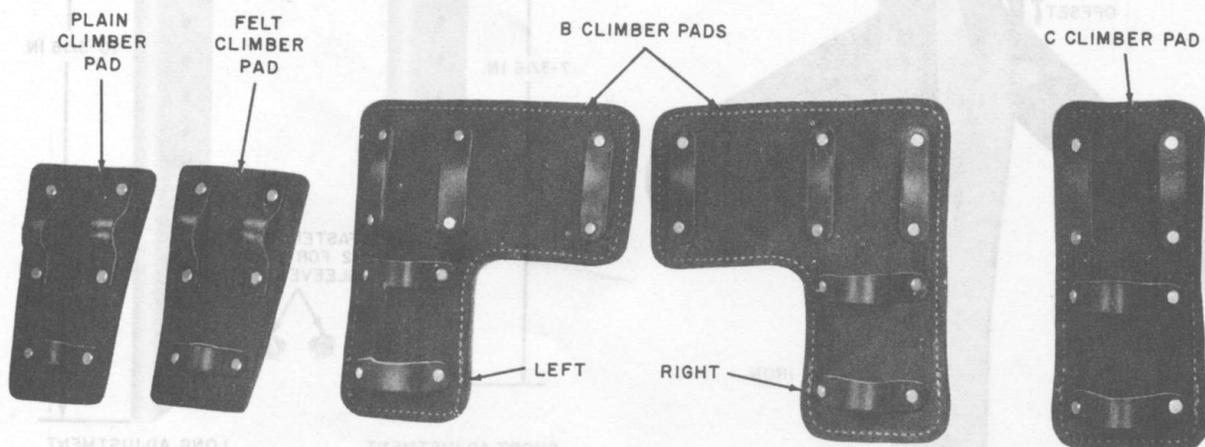

Fig. 4—Pads
2.09 Pads are used with climbers to protect the shins and calf of the leg against irritation by rubbing when the climbers are strapped to the legs. Plain leather, felt lined, and cushioned pads are available as shown in Fig. 4. Cushion pads are coded B climber pads (angle) and C climber pads (straight). The plain and felt lined pads are generally used when wearing boots that cover the calf of the leg. The wrap-around design of the